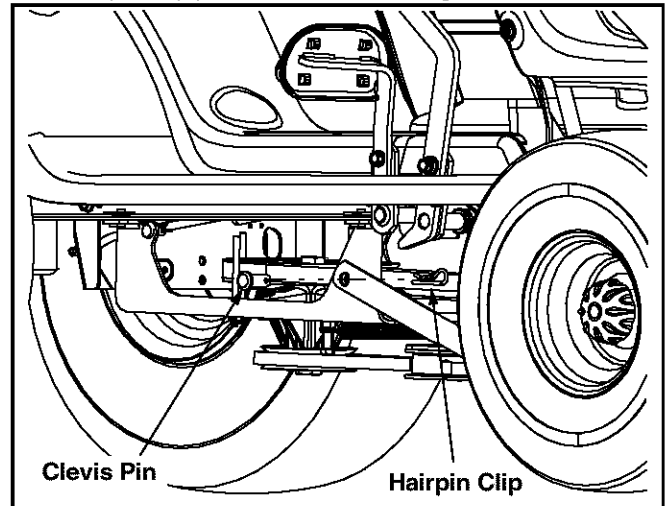

Figure 15
2. Secure the right support tube to the front of the undercarriage assembly with the clevis pin and hairpin clip just removed. See Figure 15.